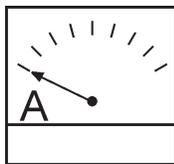

Figure 46. Ammeter (No Load)
10. The ammeter (Figure 46) will indicate **zero amps** with no load applied. When a load is applied, the ammeter will indicate the amount of current that the load is drawing from the generator.